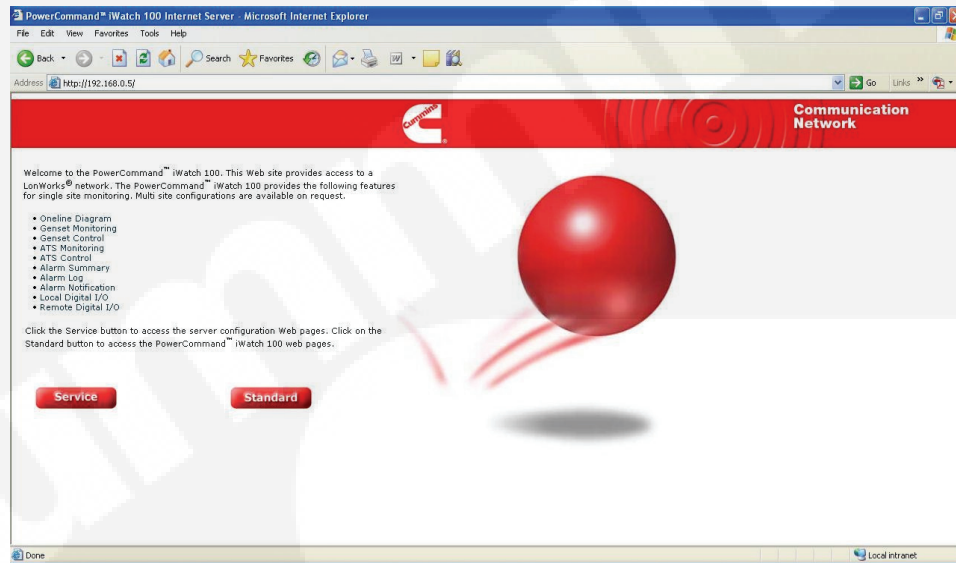

FIGURE 5-2. WEBPAGE ACCESS
3. Choose **Standard** on the screen. See figure 5-2.